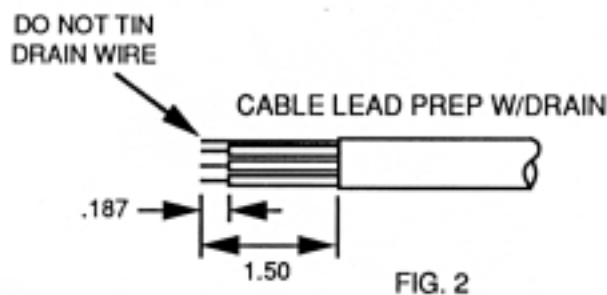
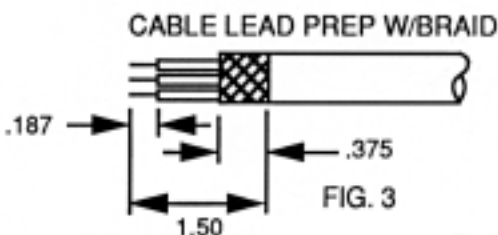

FIG. 2
FIG. 3
- D) Trim the cable jacket and shield according to either figure 2 or figure 3 depending on the shield type.
- F) Assemble backshell (1) to connector and tighten securely. If you have a drain wire as in figure 2, make sure you fold the drain wire back over cable jacket before attaching backshell (1). Slide inner ground ring (2) into backshell (1). Pull drain wire through the ring also.
- G) Flare shield over tapered end of inner ground ring (2) and gently force cable toward connector until shield covers taper of ring. If you have a drain wire as in figure 2, flare out the wire strands and press around the inner ground ring (2).
- H) Insert outer ground ring (3) into backshell (1) over shield.
- J) Engage strain relief (5) and tighten securely. Tighten strain relief saddles onto cable jacket.